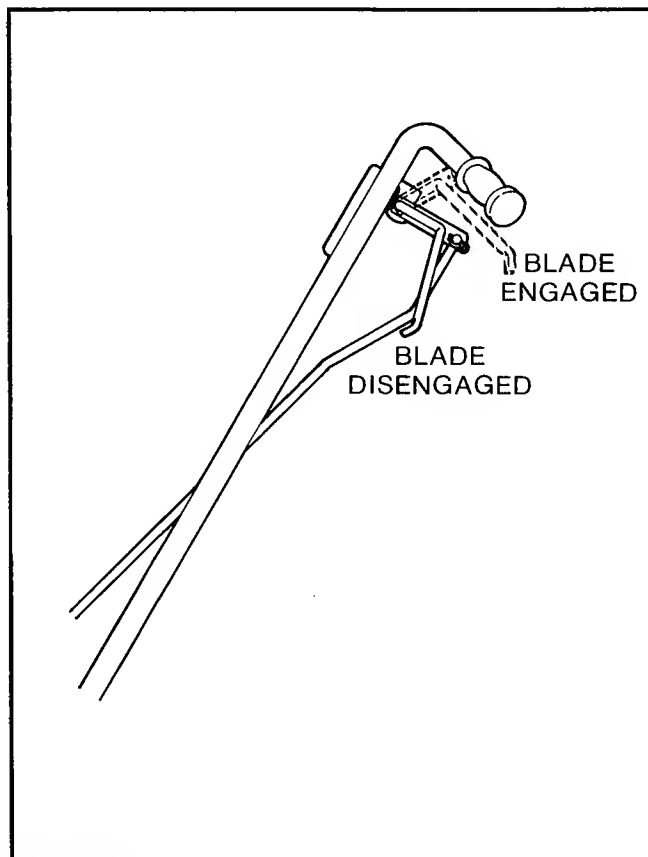

Figure 8
2. Pull operator presence safety levers up to engage blade (Figure 8) and carefully raise front wheel until the blade is at the desired cutting depth. When height adjustment lever is all the way forward the blade is 1/2 inch from the ground. Blade is lowered approximately 1/4 inch for each notch in the height adjustment index.